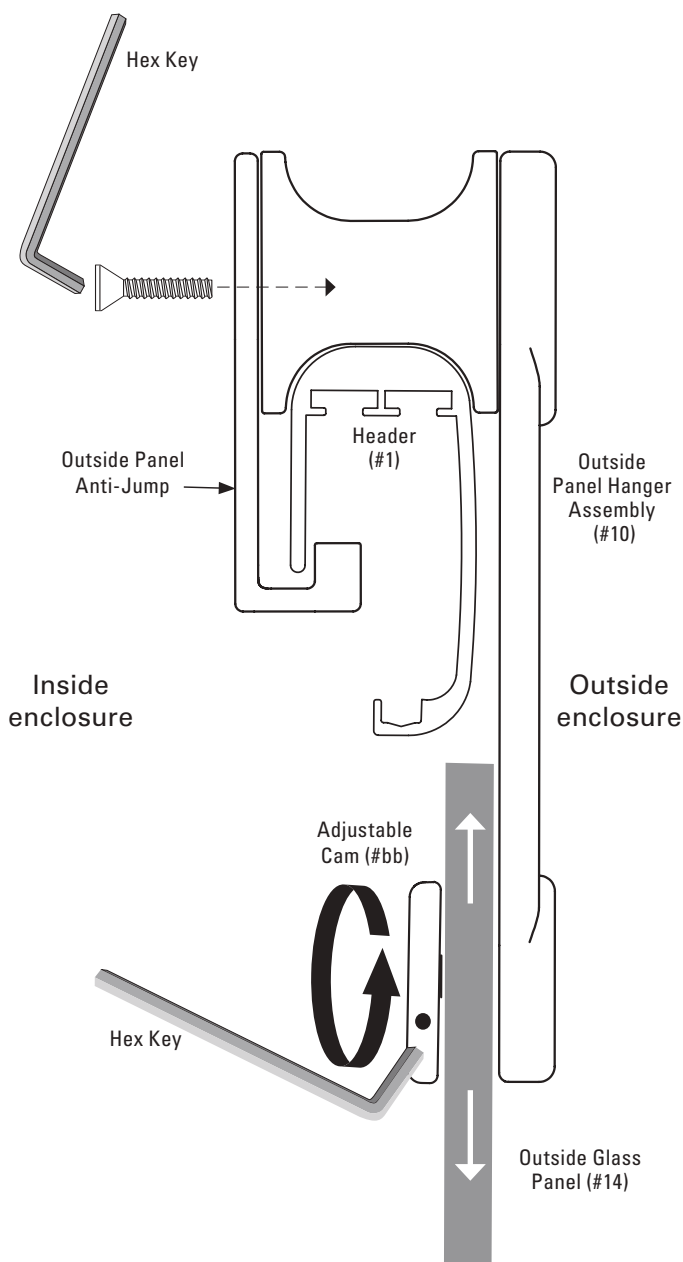

Figure 16
3. Hook the Anti-Jump under the Header on one Outside Panel Bracket (See inset, **Figure 16**).
1. Insert the Hex Key into the side of the Adjustable Cam to turn it and move the Outside Panel up or down in the Assembly (See **Figure 16**).